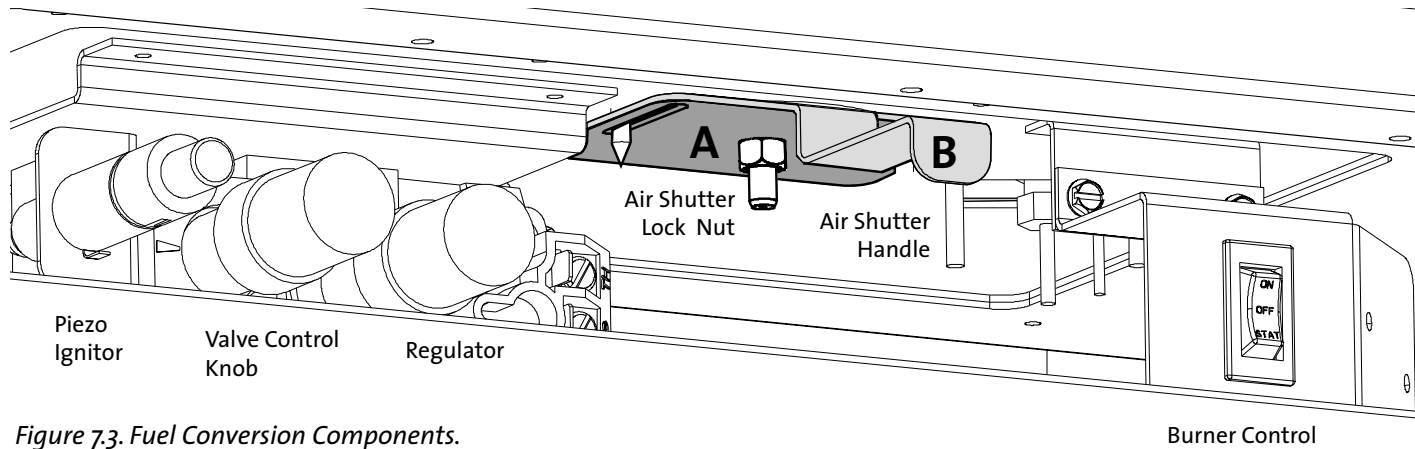

Figure 7.3. Fuel Conversion Components.
6. CHANGE THE VARIABLE REGULATOR TOWER on the gas control valve. See fig. 7.3.